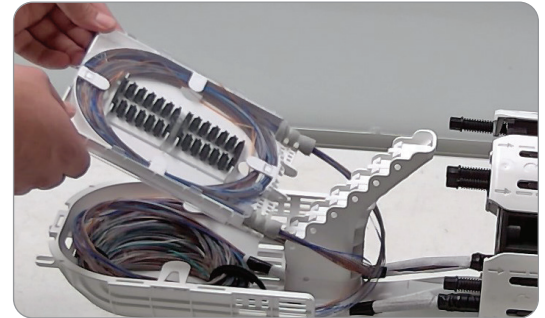

Figure 43
5. Figure-8 the fiber into the tray at the top of the basket and again under the yoke. **(Figure 43)**